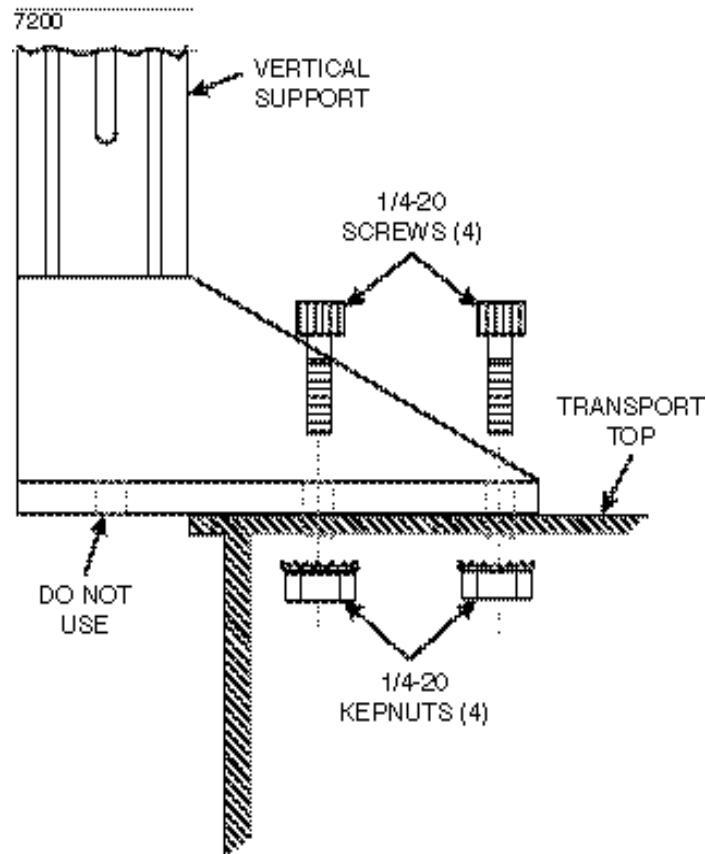

Figure 3-3. Mounting the Vertical Support to the Transport.
3. Attach the base mounting bracket using the 1/4-20 screws and Keps Nuts provided (Fig. 3-3).